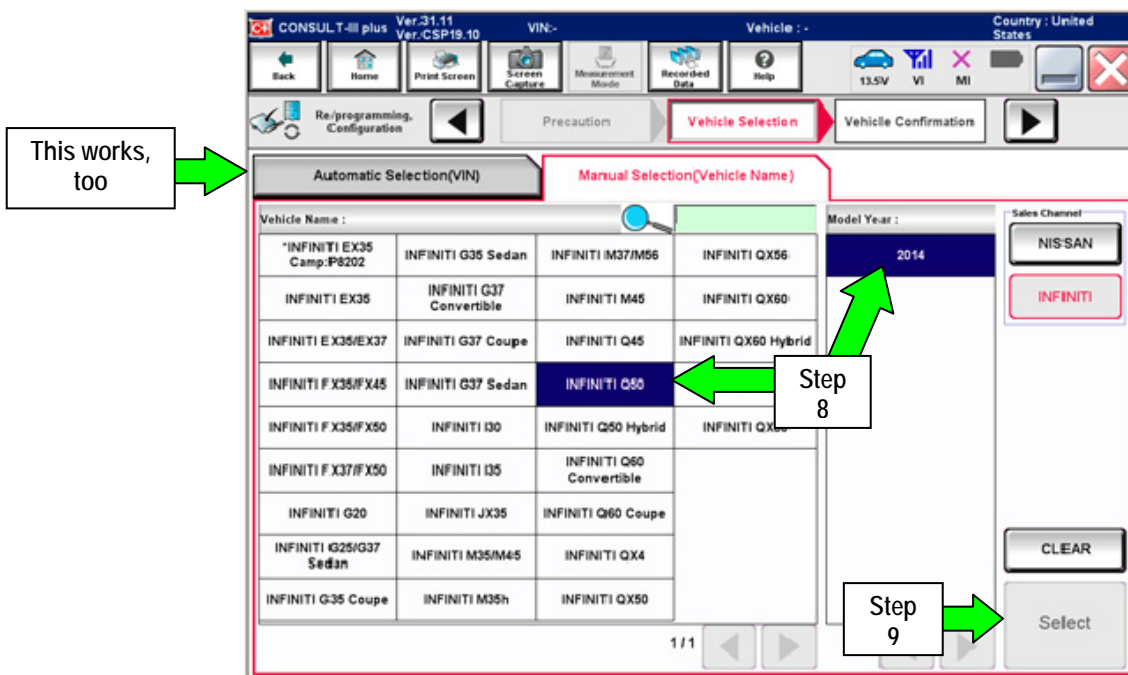

Figure 3
- If **Automatic Selection (VIN)** is selected, or the screen in Figure 3 does no display, skip to step 9.
- If Automatic Selection (VIN) is selected, or the screen in Figure 3 does no display, skip to step 10.